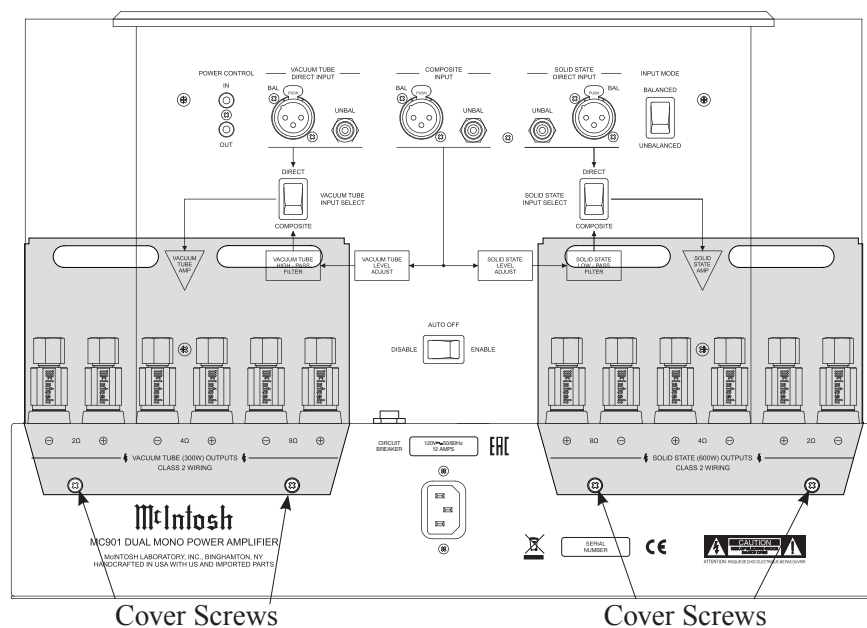

Figure 10– Terminal Connection Covers
- Remove the two Cover Screws from the rear of the MC901. These will be used to secure the Terminal Connection Cover (Figure 10 on page 9). The Terminal Connection Covers ship unsecured and the screws are in place